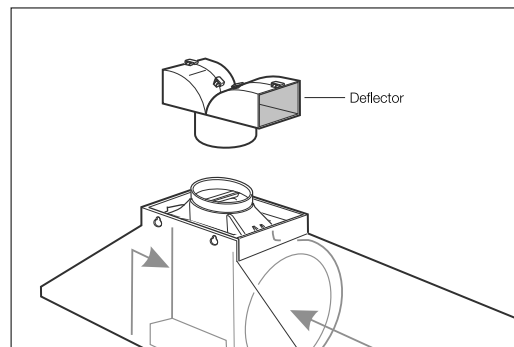

Fig. 1b
- Fix the deflector to the outlet hole. **Fig. 1b**.